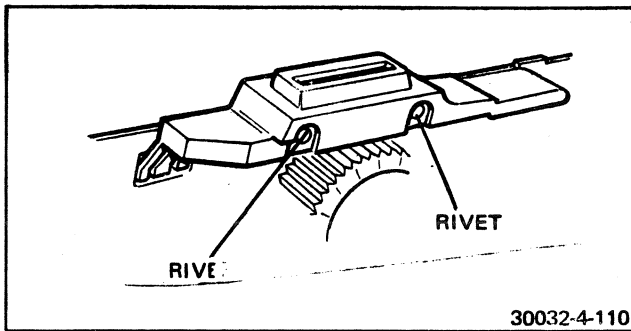

FIGURE 4-110 PILLAR SOCKET RIVET LOCATIONS
- d. Use Special Tool #11710. Press out the two rivets securing the pillar socket to the casting. Remove the socket. See Figure 4-110.